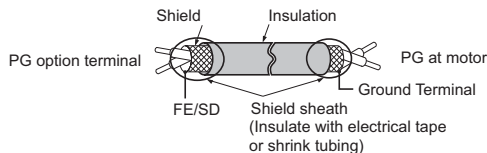
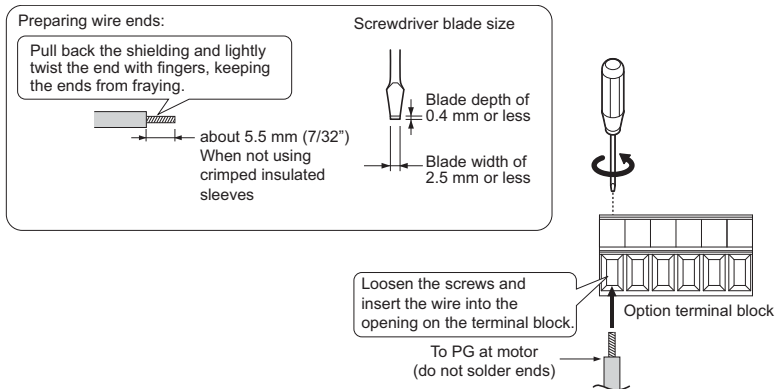

Figure 6 Preparing Ends of Shielded Cable
Figure 7 Preparing and Connecting Cable Wiring
2. There are two screw holes on the drive for use as ground terminals (I). When connecting three options, two ground wires will need to share the same drive ground terminal.
- Prepare and connect the wire ends as shown in Figure 6 and Figure 7. Refer to Wire Gauges and Tightening Torques on page 24 to confirm that the proper tightening torque is applied to each terminal. Take particular precaution to ensure that each wire is properly connected and wire insulation is not accidentally pinched into electrical terminals.